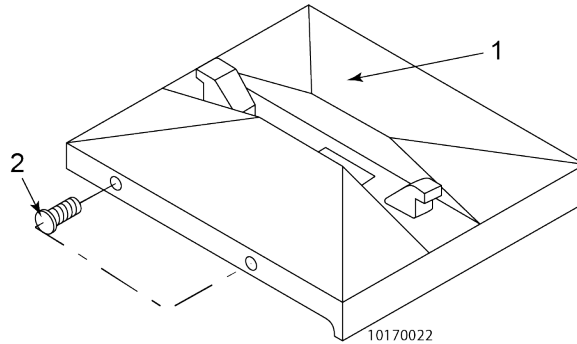

Figure 2-22 Lid Cover Screws
- 1) There are two lid liner screws (2) on either side of the lid cover (1), see Figure 2-22 Lid Cover Screws, page 61. Back these four screws out about 1/2 inch.